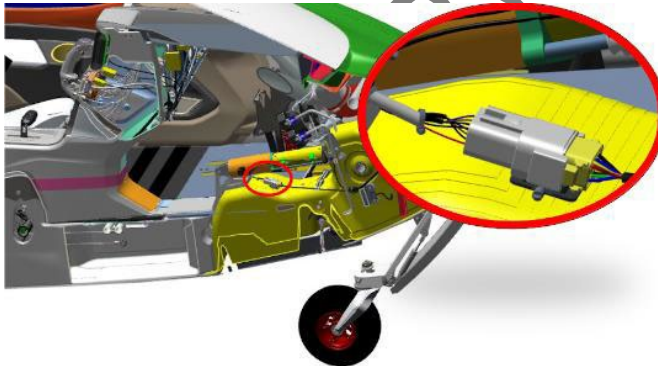

Figure 2. NLG Connector D9024J, Wedge Lock (orange)
1. If replacing actuator, disconnect bolts, worm drive hose clamp, and boot in accordance with Aircraft Maintenance Manual section 100425. Cut zip tie around NLG connector and disconnect the NLG connector D9024J. (Reference **Figure 2.**) Skip to Repair step 7.
- a. Cut zip tie around NLG connector and disconnect the NLG connector D9024J. (Reference **Figure 2.**)
- b. Remove Wedge lock from actuator-side connector body. (Reference **Figure 2.**)